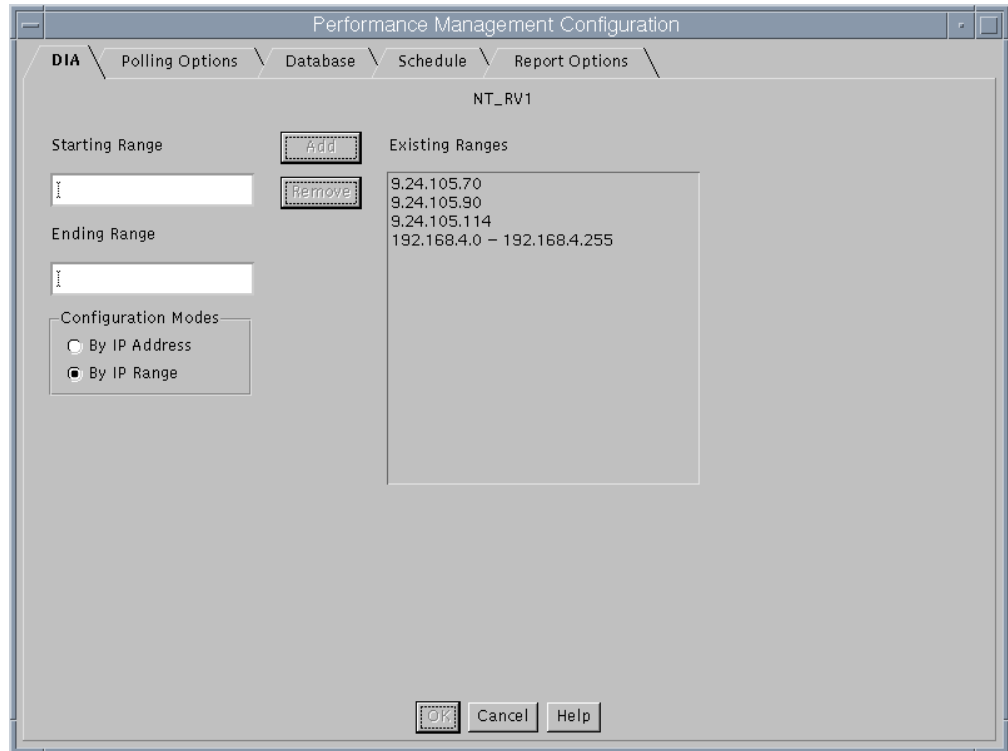

Figure 204. Configuring Specific IP Addresses
- Drag and drop the icon NT_RV1 over the Network Management Station rs600033t to bring up NT_RV1's IP address polling screen (see Figure 204).